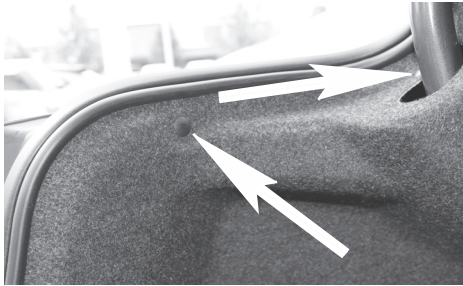

Figure 1
2. Open trunk and remove threshold by pulling up on it. Remove floor cover and set both items aside. On both sides carefully remove 3 clips on felt liner shown in **Figures 1 & 2**.